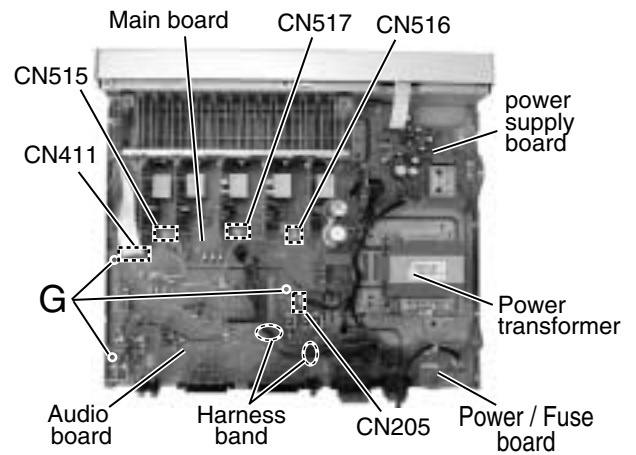

Fig.8
**■ Removing the audio board (See Fig.8)**